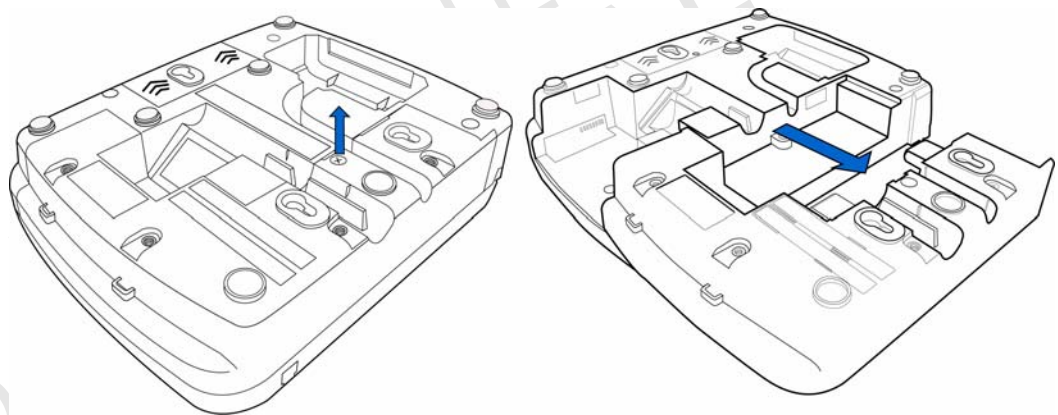

Figure 7 Removing the Old I/O Module
- 1 Loosen the module retaining screw on the bottom of the M^x800 Series (Figure 7) until the old module can slide out.